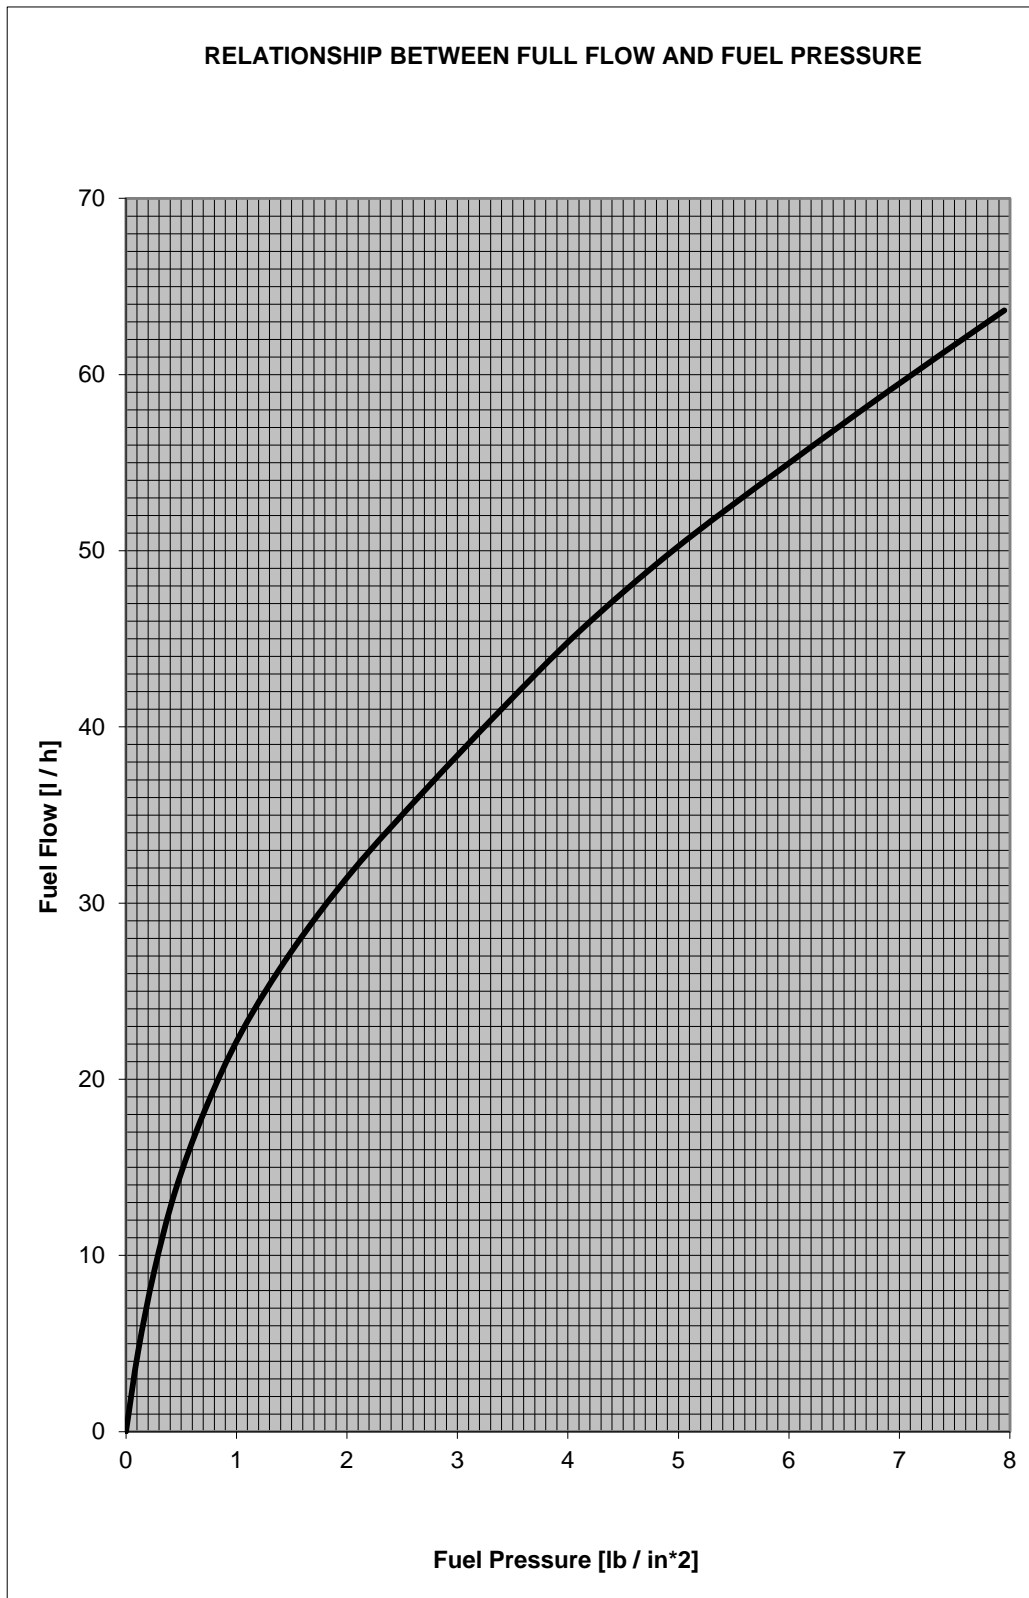

Figure 3: Fuel Flow vs Fuel Pressure
The relationship between fuel flow and altitude for maximum power (i.e. maximum take-off and maximum continuous ) with “best power” mixture is marked on the fuel flow gauge. The relationship between fuel pressure and altitude for this condition is given in Figure 4-1 on Page 4-7 in Flight Manual doc. No.SH.3.1 and the relationship between fuel flow and fuel pressure in Figure 3.
- (2) Mixture: Obtain fuel pressure from Figure 8-3 in Flight Manual doc. No.SH.3.1 appropriate to rotational speed, mixture condition and power condition. Set mixture to give the fuel flow given in Figure 3 appropriate to this fuel pressure.